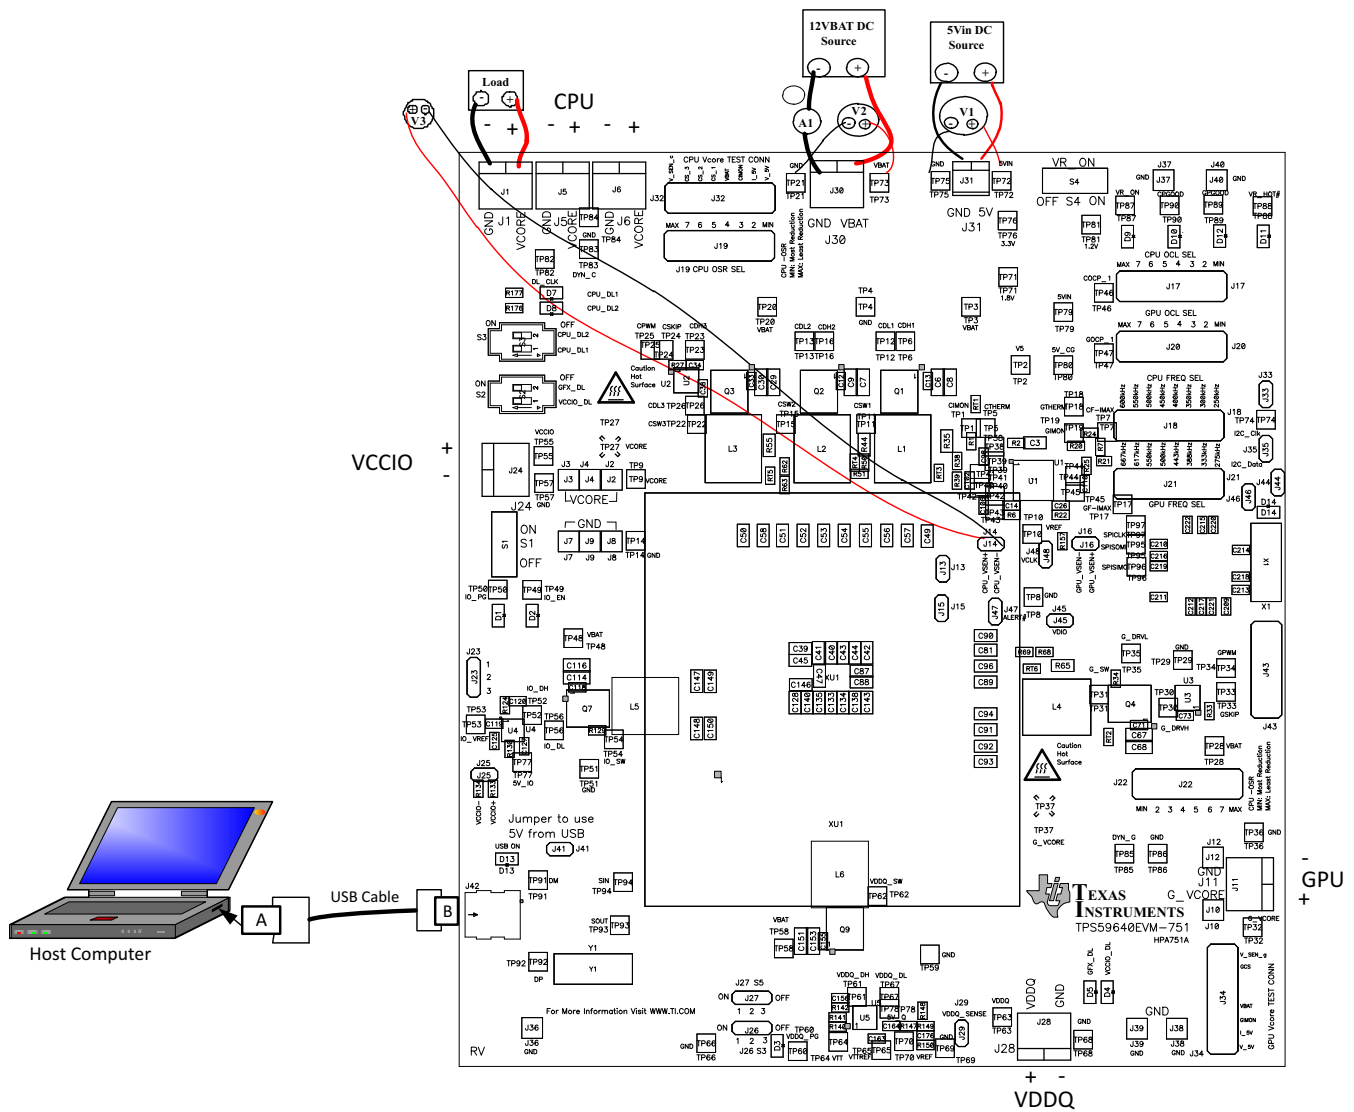

Figure 17. TPS59640EVM-751 Recommended Test Setup
12VBAT DC Source: The 12VBAT DC source must be a 0-V to 20-V variable DC source capable of supplying a 20-Adc current. Connect 12VBAT to J30 as shown in Figure 17.
5Vin DC Source: The 5Vin DC source must be a 0-V to 5-V variable DC source capable of supplying a 1-Adc current. Connect 5Vin to J31 as shown in Figure 17.
Figure 17 is the recommended test setup to evaluate the TPS59640EVM-751. Working at an ESD workstation, ensure that any wrist straps, bootstraps, or mats are connected referencing the user to earth ground before handling the EVM.
1. Prior to connecting the 5Vin DC source, it is advisable to limit the source current from 5 Vin to 1 A maximum. Make sure that 5Vin is initially set to 0 V and connected as shown in Figure 17.
2. Prior to connecting the 12VBAT DC source, it is advisable to limit the source current from 12VBAT to 10 A maximum. Make sure that 12VBAT is initially set to 0 V and connected as shown in Figure 17.
3. Connect voltmeters V1 at TP72 (5Vin) and TP75 (GND) to measure 5Vin voltage, V2 at TP73 (12 VBAT), and TP21 (GND) to measure 12VBAT voltage as shown in Figure 17.